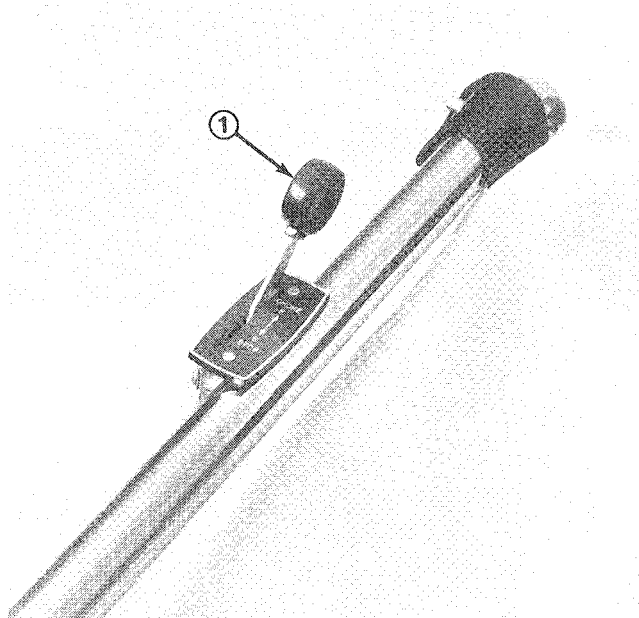

Figure 10
1. Move throttle control to “choke” position (Fig. 10).